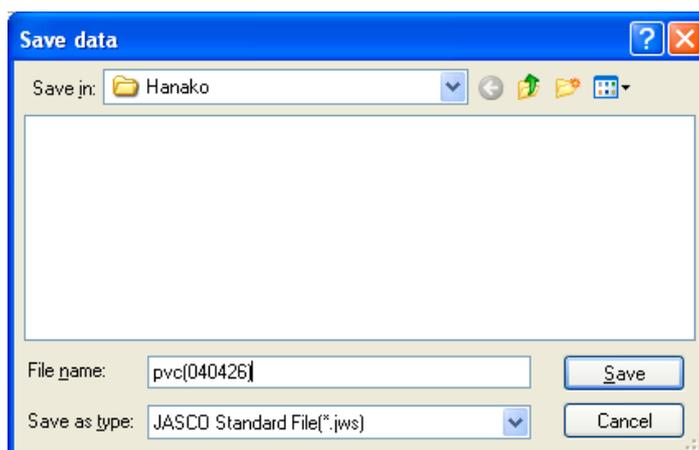

Fig.2.24 [Save As] dialog
- (1) Select [Save As...] from the [File] menu. The [Save As] dialog appears. (Fig. 2.24)